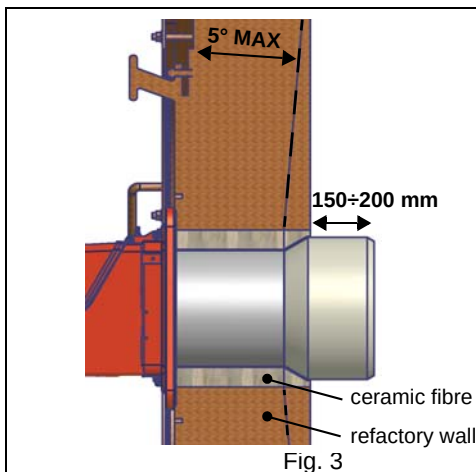
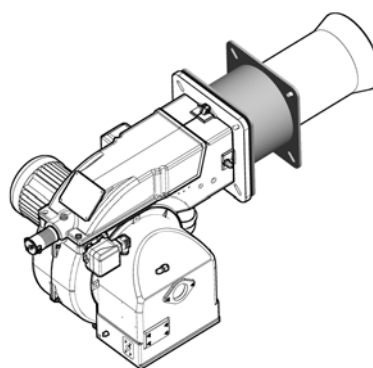

Fig. 3
Fig. 4
- Cast-iron boilers, three pass flue boilers (with the first pass in the rear part): the blast tube must protrude about 150÷200 mm into the combustion chamber (Fig. 3). The length of the blast tubes does not always allow this requirement to be met, and thus it may be necessary to use a suitably-sized spacer to move the burner backwards (Fig. 4).